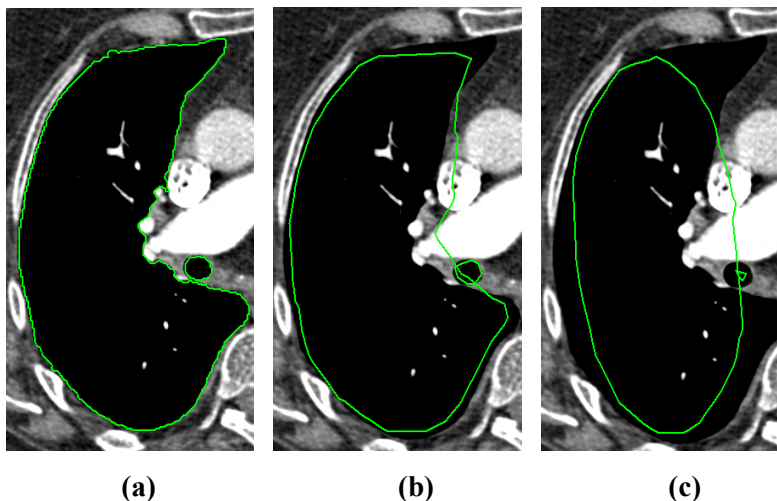

Figure 239 – Source ROI (a), once smoothed ROI (b), 5 times smoothed ROI (c)
4. Click the **Apply** button as many times as necessary to achieve the desired setting. Whenever you press this button, selected ROI contours will be rounder. The result is immediately displayed in the current view (see Figure 239).